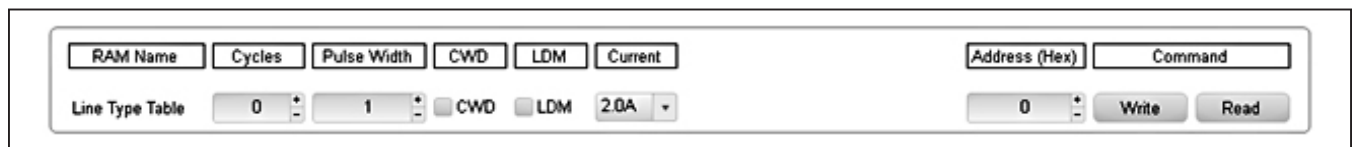

Figure 5. Line Type Table
- Go to the **Line Type Table**. It is a global register that affects all the channels, see Figure 5. It contains 128 addresses, from 0 to 127.
- To choose how many times to repeat the pattern, fill the **Cycles** number. Zero (0) means one cycle.
- To choose how many clock periods each pulse has to last, fill the **Pulse Width** number. Zero (0) means the pulse will last for a single period of clock. For example, to have a 5MHz pattern generated from a 20MHz master clock, if the **Pulse Wave Table** is **VPP**, **VNN**, and **EOP**, the **Pulse Width** has to be 1.